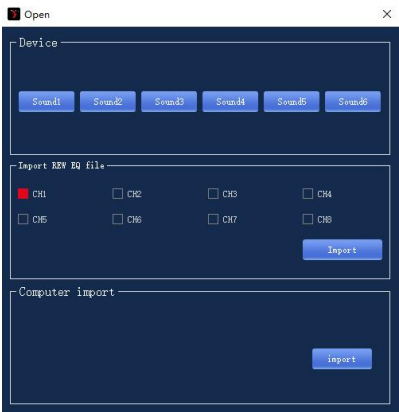

Figure 3.4.4
Step2: Click "open" item will pop up after loading machine preset scene window dialog box (Figure 3.4.4).
Step3: as dialog box of figure 3.4.4 , select the machine where the user wants to load